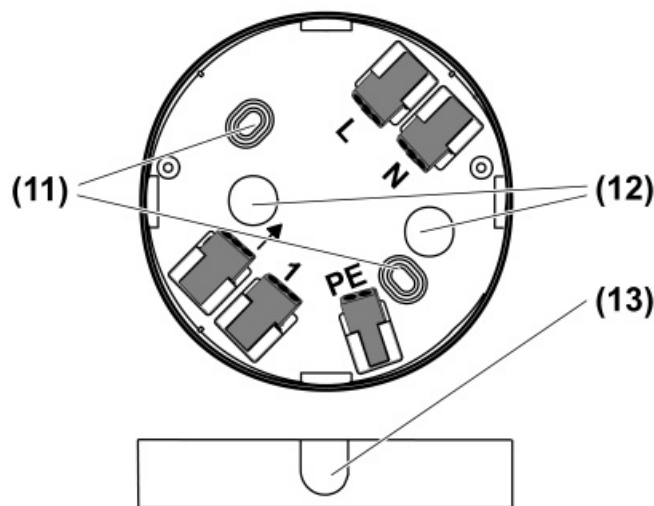

Figure 8: Connection box
(13) (see figure 8).
- Fastening the connection box (1) through holes (11) (see Figure 8).